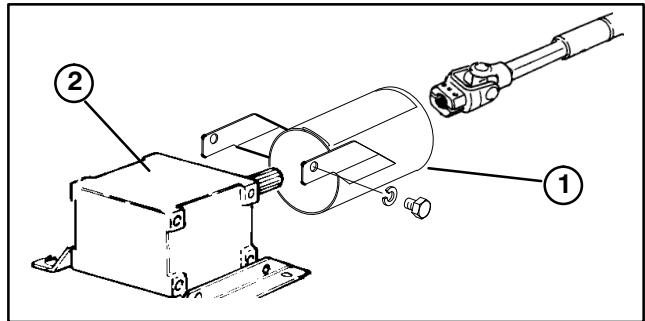

Figure 6
MOUNT PTO SHAFT GUARD AND CONNECT PTO SHAFT TO CUTTING UNIT GEAR BOX (Model 30569 TE Only) (Fig. 6)
1. Remove (2) capscrews and lockwashers securing PTO guard mounting brackets to gearbox (Fig. 6). Retain fasteners for re-installation.
2. Slide PTO shaft guard onto PTO shaft, positioning guard as shown in figure 6.